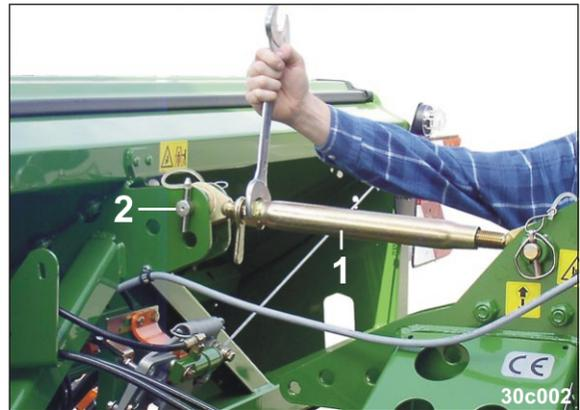

Fig. 112
10. Peg the top link (Fig. 112/1) with 2 top link pins (Fig. 112/2) onto the soil tillage implement and the pack top seed drill.